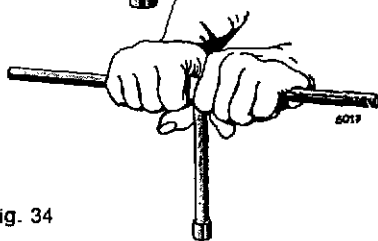

Fig. 34
3. **Preload the bolts (Fig. 34)** by holding the tommy bar in such a manner that both hands are in contact with the spanner. When using a box or open-end spanner, the tip of your straight thumb of the hand holding the spanner must touch the head of the bolt. Preload bolts hand-tight, i. e. apply wrist force only (see adjoining table).